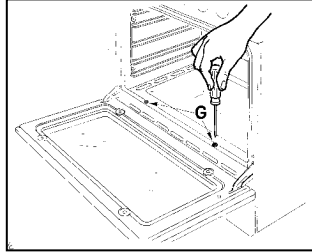

Fig 5
- Remove the oven level (Fig.5).